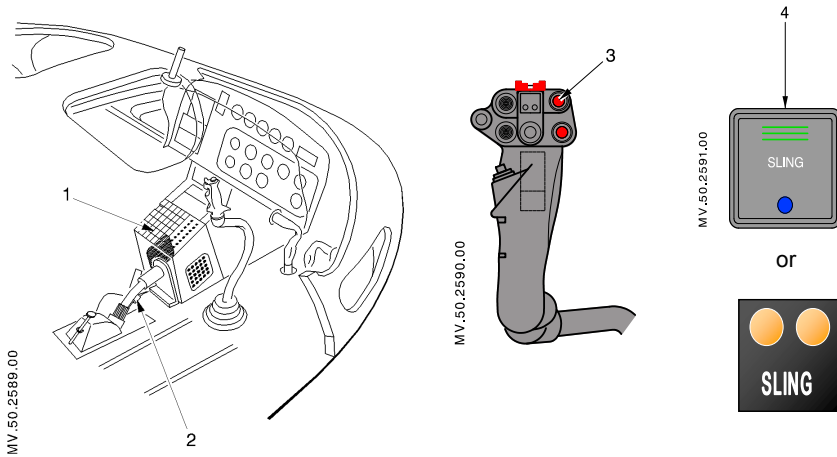

Figure 2: Cargo sling controls
- A control system for the pilot (Figure 2), including:
- a **[SLING]** pushbutton (4) located on the SCU (1), for powering-on the installation,
- a release control (3) on the cyclic stick (electrical mode),
- a release handle (2) located under the collective lever (mechanical mode).